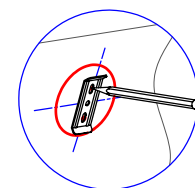

Fig. 2
- Step 3. Locate mounting plate in the center of circle. Mark location of the mounting screw (Fig.2) and drill holes at the marked location.